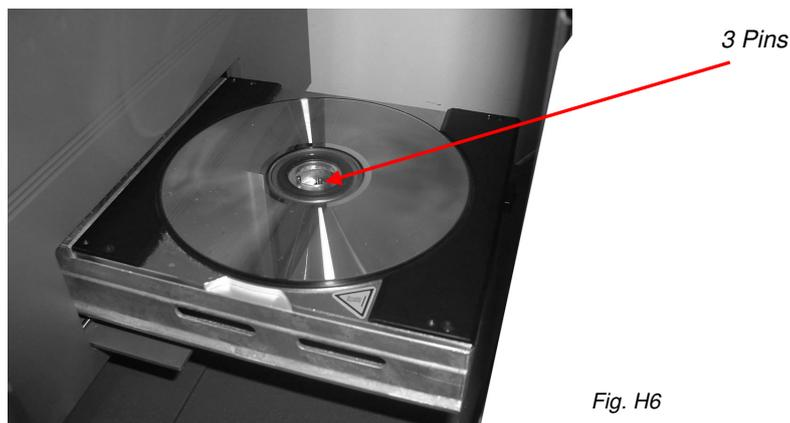

Fig. H6
5. Place a disc onto the Input spindle, move the > cursor to **Input Bin to Printer** and press the > key. The robotic arm picks the disc from the Input spindle and places it into the printer tray. Check to see if the disc is situated in the correct position within the tray. The disc should sit on the rubber pad between the two alignment pins and the centring pin (figure H6). If the disc is resting on the alignment pins, the printer will not close or print.